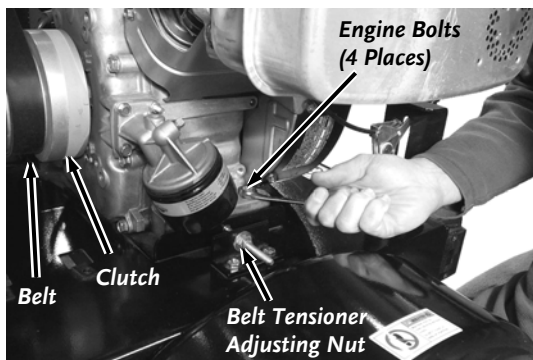

Figure 26
3. Loosen the four Engine Bolts (two on the left side and two on the right side) using two 1/2" Wrenches, one on the Bolt and one on the Locknut underneath the Base (**Figure 26**).
2. Tighten the Adjusting Nut on the Belt Tensioner using a 1/2" Wrench to take up the slack in the Belt, but not too tight at this point (**Figure 26**).